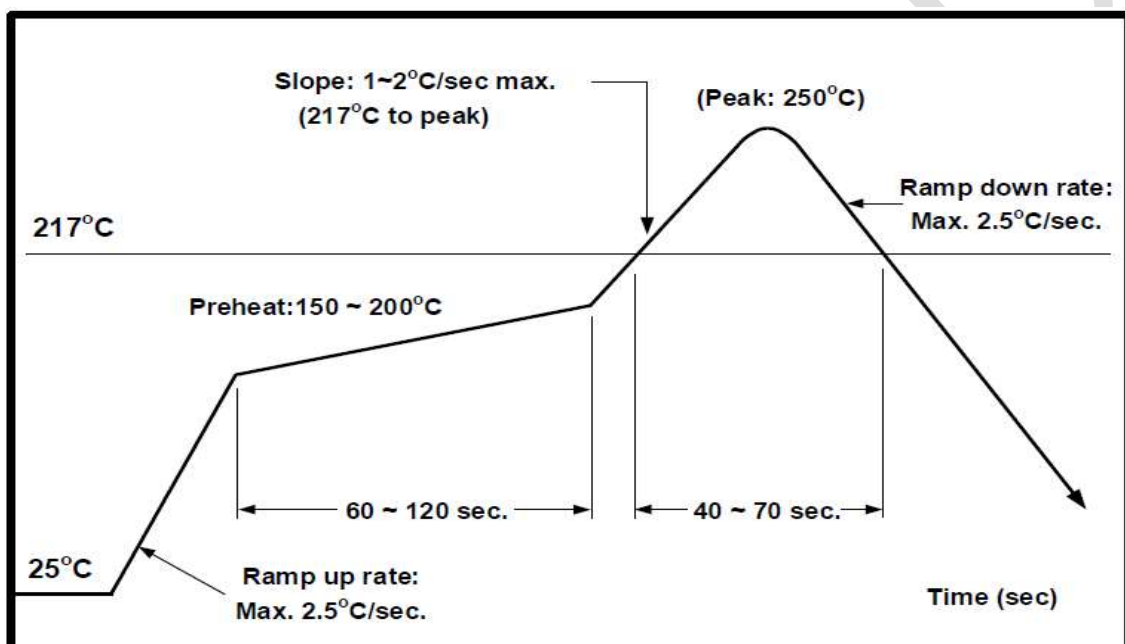

Figure 21 : Solder reflow profile
- Allowable reflow soldering times: Three times based on the reflow soldering profile as shown in Figure 21.
- Temperature profile: Reflow soldering shall be done according to the temperature profile as shown in Figure 21.